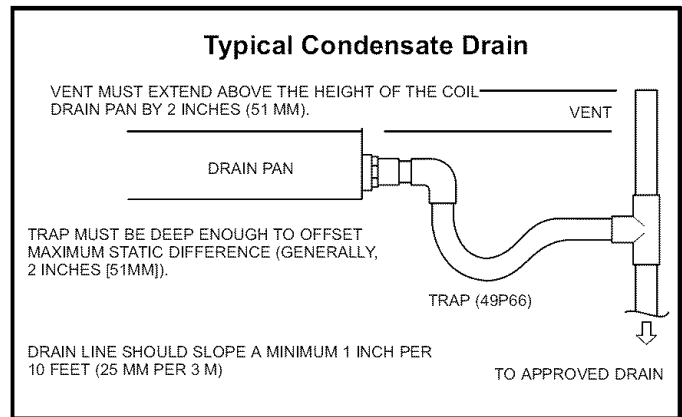

FIGURE 6
- 2- Install trap in condensate line. Trap must be deep enough to offset difference in static pressure between drain pan and atmosphere. Generally 2 inches (51 mm) is satisfactory for medium static applications. Refer to figure 6.